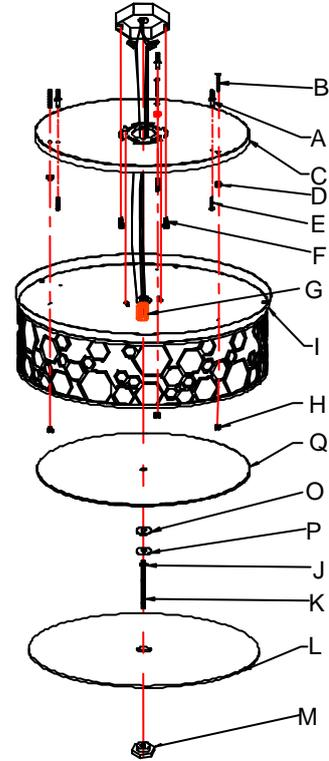

Fig. 2
CONNECTING THE WIRES (Fig. 2)
- At this point, connect the electrical wires as shown in Fig. 2, making sure that all wire connectors are secured. If your outlet box has a ground wire (green or bare copper), connect the fixture's ground wire to it. Otherwise, connect the fixture's ground wire directly to the mounting plate using the green screw provided. After wires are connected, tuck them carefully inside the junction box.